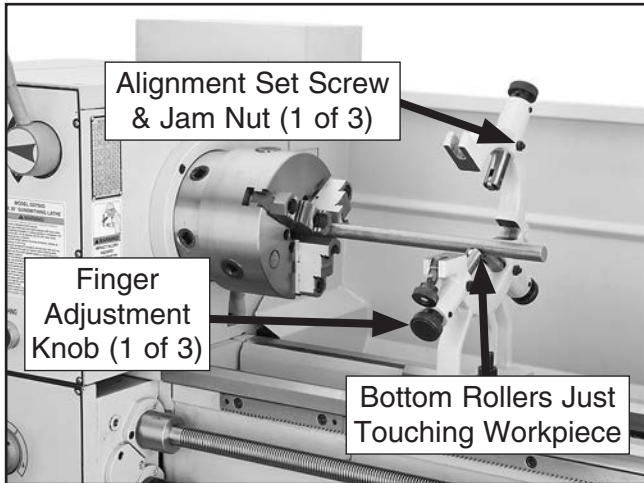

Figure 52. Example of workpiece mounted in steady rest.
3. Install workpiece in chuck, then use finger adjustment knobs to position bottom two finger rollers so they barely touch workpiece, as shown in **Figure 52**.
Note: *If necessary, slightly loosen alignment set screw and jam nut (see **Figure 52**) to allow finger movement, then retighten jam nut.*